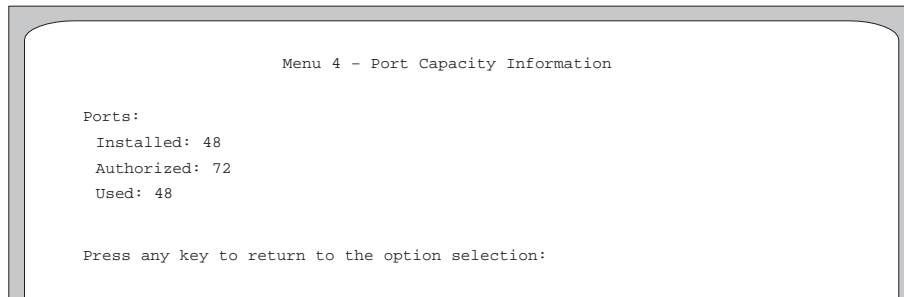

Figure 12-4. Example of Menu 4.2, Port Capacity Information.
11. From the Main Menu, access Menu 4 – Port Assignments, then menu 4.2, Port Capacity Information, as shown in the example in Figure 12-4, to ensure that the new ports were added successfully. Access menu 4.1, and configure the ports for the new cards. Refer to Chapter 5 for more information about menu 4 and configuring port assignments.